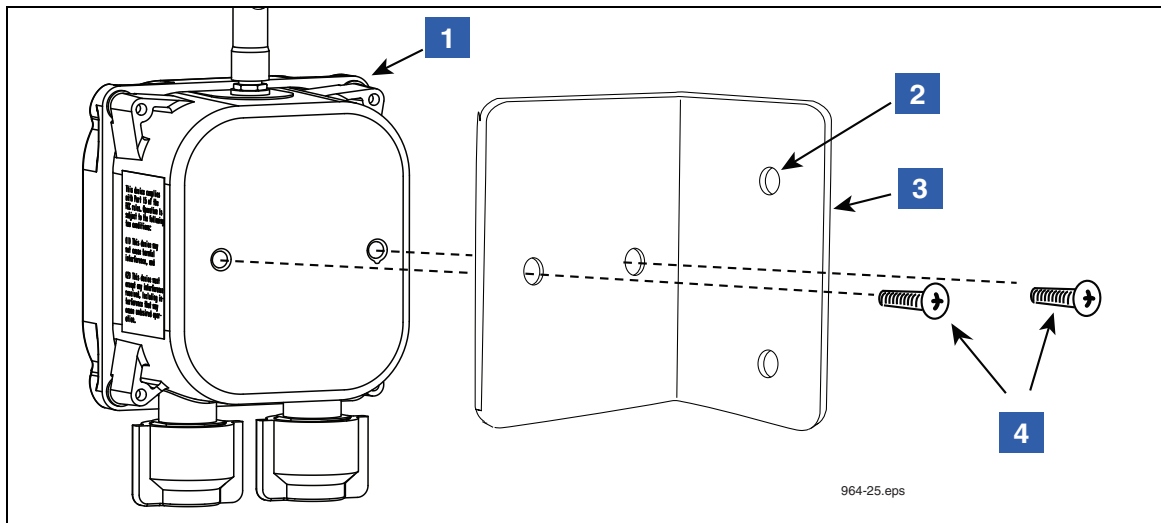

Figure 31. Attaching Mounting Bracket to Receiver or Repeater
1. One Receiver is required per site and it is mounted in the vertical position (antenna up) on the outer wall of the same building housing the TLS RF. The Receiver is attached to its mounting bracket with #10 x 1/2" taptite screws from its install kit (see Figure 31). The L-bracket is then mounted on the outer wall of the building using appropriate fasteners (customer supplied). If the Receiver will be exposed to the weather, attach the L-bracket to the mounting surface inside a weatherproof enclosure. This enclosure is not required when mounting the Receiver under a roof overhang and shielded from the weather.
LEGEND FOR NUMBERED BOXES IN Figure 31
2. The Repeater is attached to its mounting bracket with #10 x 1/2" taptite screws from its install kit (ref. Figure 31 on page 42). The L-bracket is then attached to the outer wall of the building using appropriate fasteners (customer supplied). If the Repeater will be exposed to the weather, attach the L-bracket to the mounting surface inside a weatherproof enclosure. This enclosure is not required when mounting the Repeater under a roof overhang and shielded from the weather.